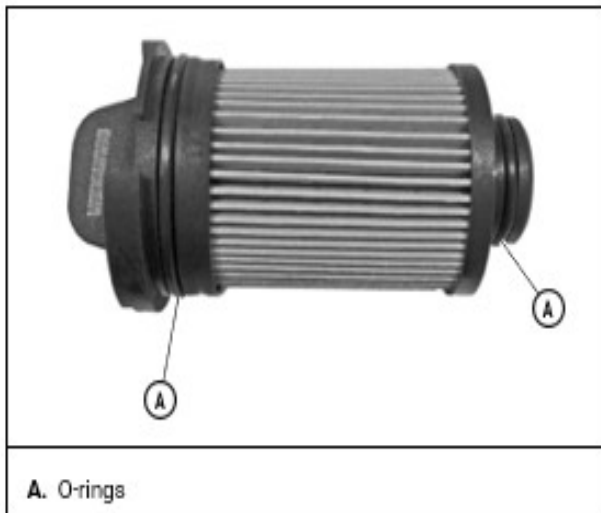

Figure 17
**NOTE:** Place a light film of oil on the oil filter's two O-rings before installing the new filter in the Oil Guard. [Figure 17]